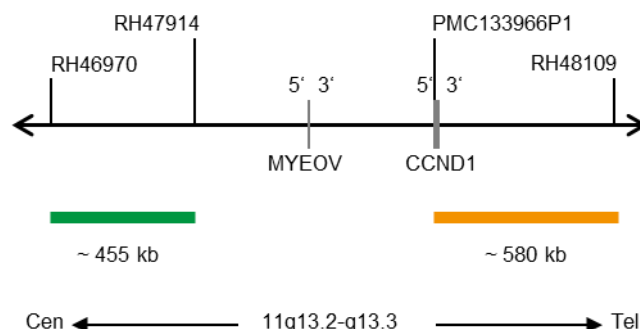

Fig. 1: SPEC CCND1 Probe map (not to scale)
- ZyGreen (excitation 503 nm/emission 528 nm) labeled polynucleotides (~10 ng/μl), which target sequences mapping in 11q13.2-q13.3* (chr11:68,249,010-68,705,283) proximal to the CCND1 breakpoint region (see Fig. 1).
- ZyOrange (excitation 547 nm/emission 572 nm) labeled polynucleotides (~4.5 ng/μl), which target sequences mapping in 11q13.3* (chr11:69,453,301-70,031,240) distal to the CCND1 breakpoint region (see Fig. 1).